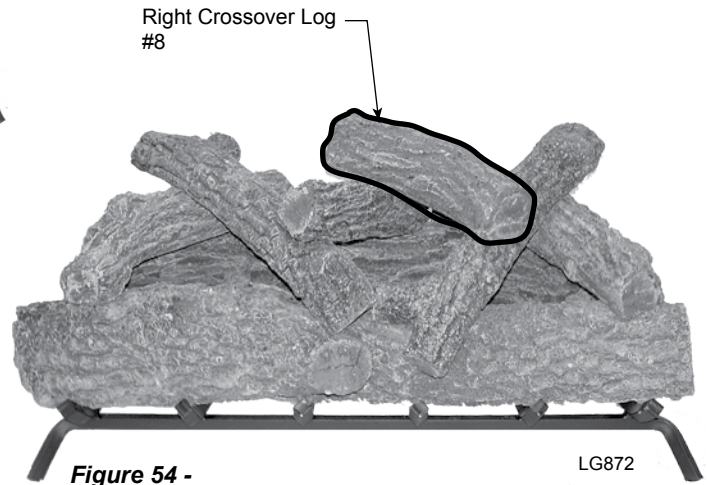

**Figure 53 -
7. Place Left Crossover Log #7 on Log #2 and Log #5. *Figure 53*